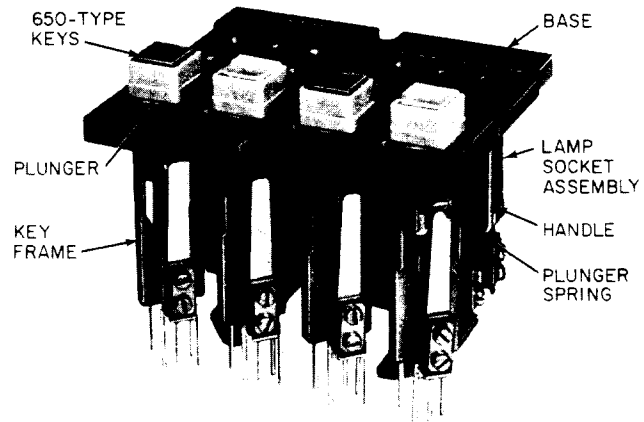
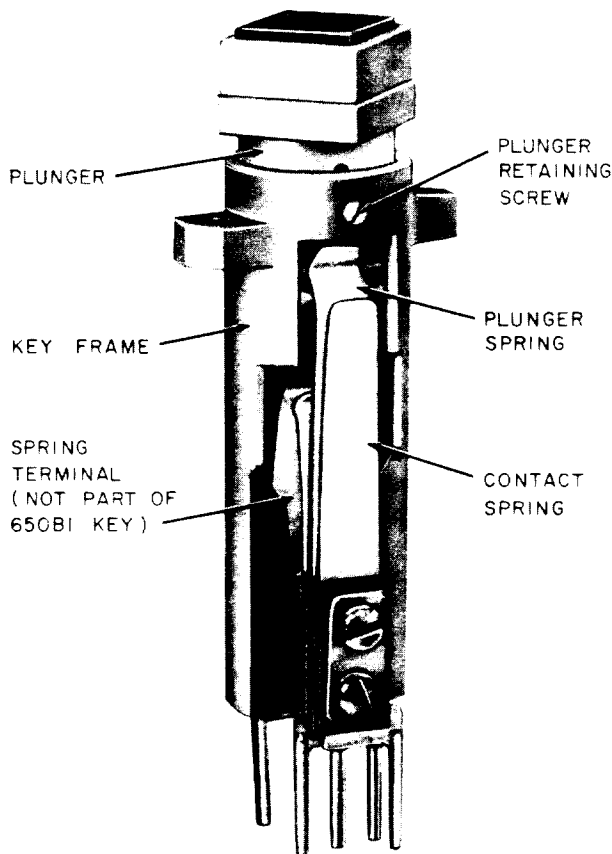

Fig. 2—648A-Type Key
Fig. 1—650-Type Key(650A1 Illustrated)
1.17 The 650-type key (Fig. 1) is the basic component of the 648A- and 649A-type keys (Fig. 2 and 3) which replace the 614A- and 615-type